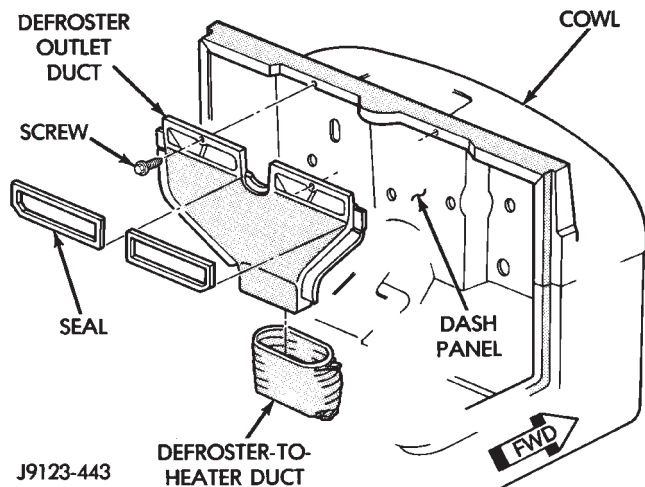

Fig. 16 Defroster Duct Outlet Removal/Installation
(16) If necessary, remove the defroster duct outlet from the dash panel (Fig. 16).
(17) If necessary, remove the ash receiver tray/
- (2) If removed, install the defroster duct outlet on the dash panel (Fig. 16).